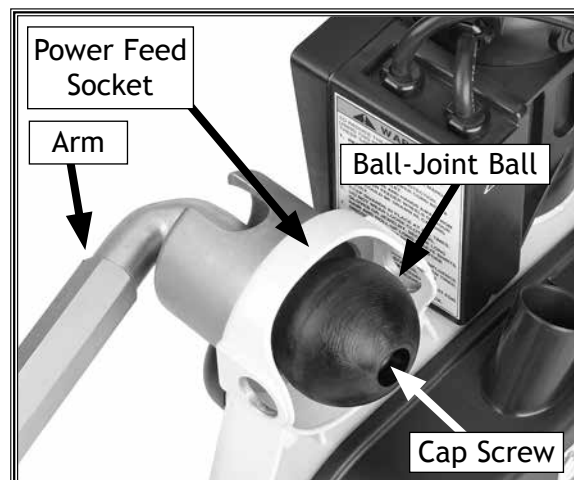

Figure 27. Arm, ball joint and socket assembly.
3. Insert the arm into the ball-joint ball and secure both together with the M10-1.5 x 25mm cap screw shown in **Figure 27**.
4. Insert the ball joint assembly into the power feed socket shown in **Figure 27**.